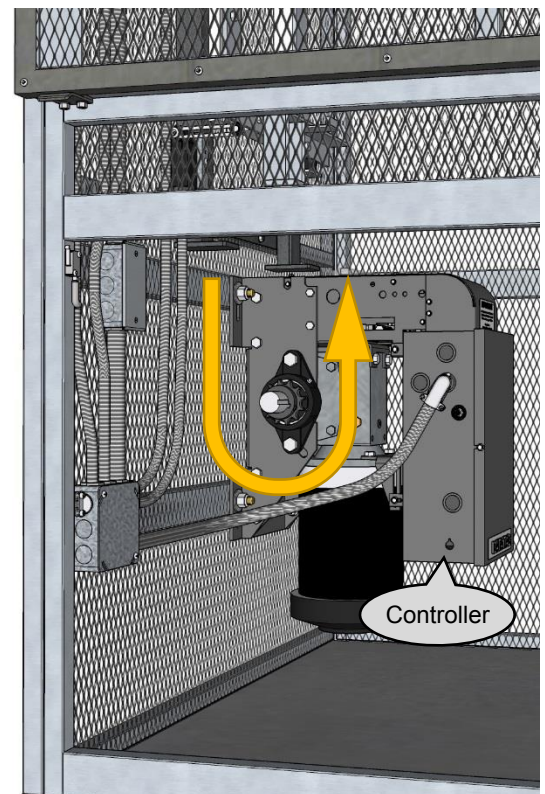

Figure 18
- 3 Watch the rotation of the sprocket when the up contactor is pressed. If the direction of rotation is not the same direction as shown in Figure 18, go on to Step 4. If the direction of rotation is the same as shown in Figure 18, go on to Step 5.